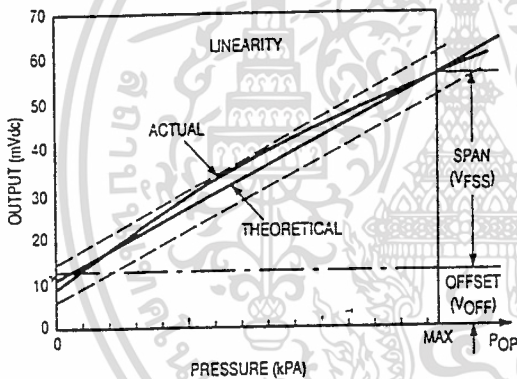

Figure 2. Linearity Specification Comparison
Linearity refers to how well a transducer's output follows the equation:  $V_{out} = V_{off} + \text{sensitivity} \times P$  over the operating pressure range (see Figure 2). There are two basic methods for calculating nonlinearity: (1) end point straight line fit or (2) a least squares best line fit. While a least squares fit gives the "best case" linearity error (lower numerical value), the calculations required are burdensome.